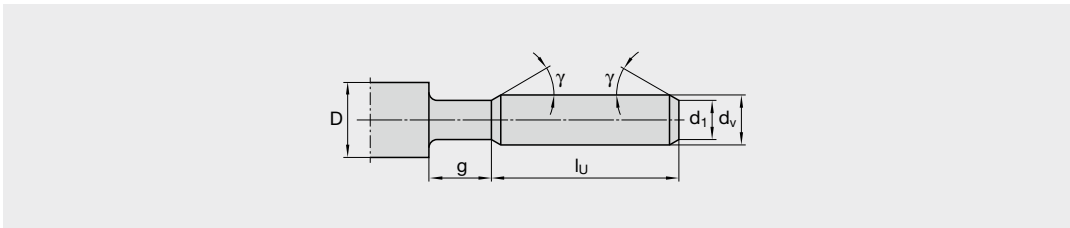

Fig. 15: Preparing the workpiece with undercut (thread runoff)
5. Perform the undercut (thread runoff) and the two chamfers according to Fig. 15 Preparing the workpiece with undercut (thread runoff).